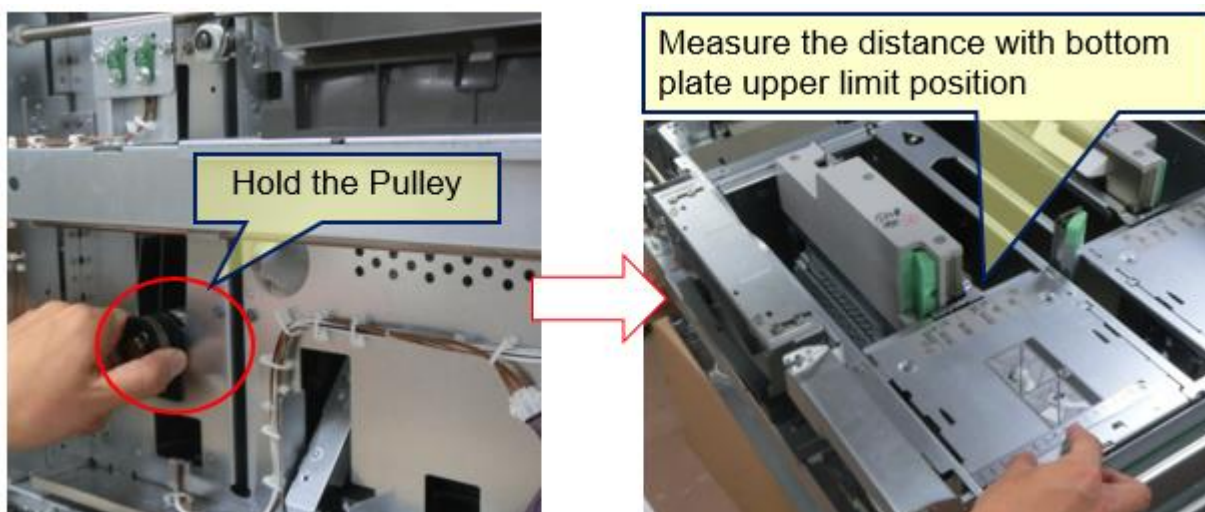

Fig. 1
2. Put a few sheets of paper onto the bottom tray, in order to raise the tray to its upper position (Fig. 1).